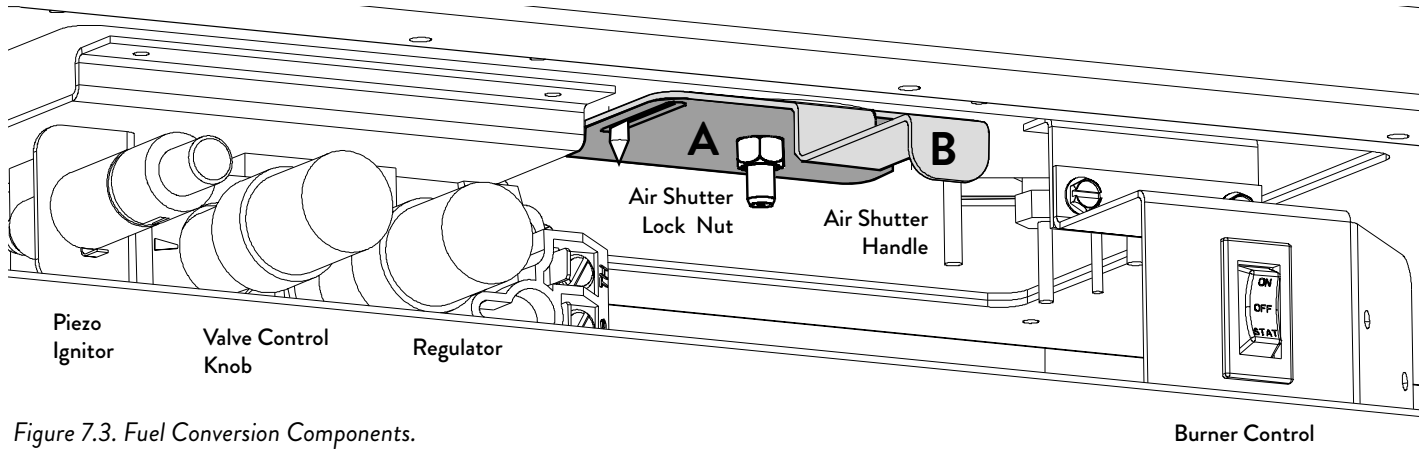

Figure 7.3. Fuel Conversion Components.
5. CHANGE THE VARIABLE REGULATOR TOWER on the gas control valve. See fig. 7.3.